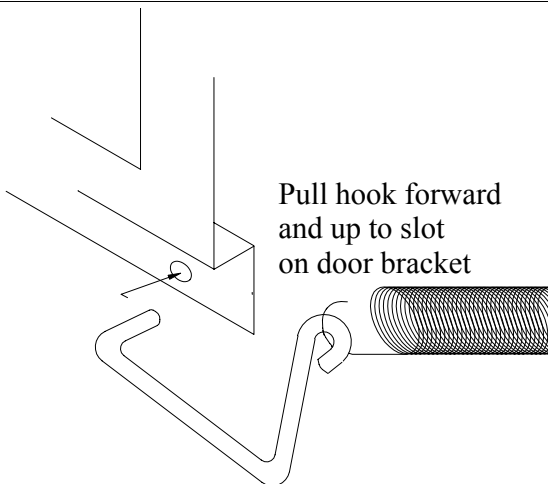

Fig. 32– Door Locking Assembly
2. Connect the wires to the gas valve (see figure 32).